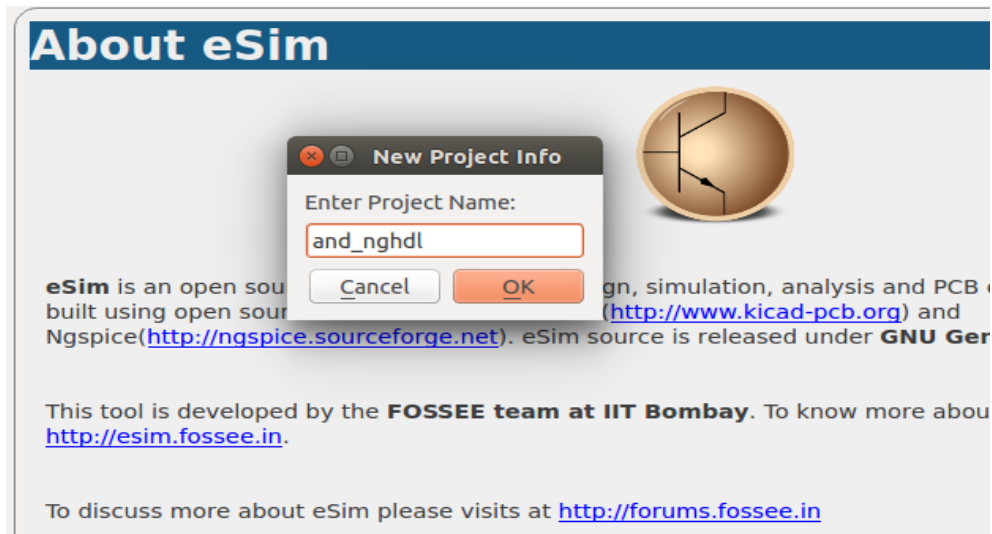

Figure 10.5: Creation of a new project
1. Click on New Project icon to create a new project as shown in Fig. 10.5, be careful of the naming conventions.